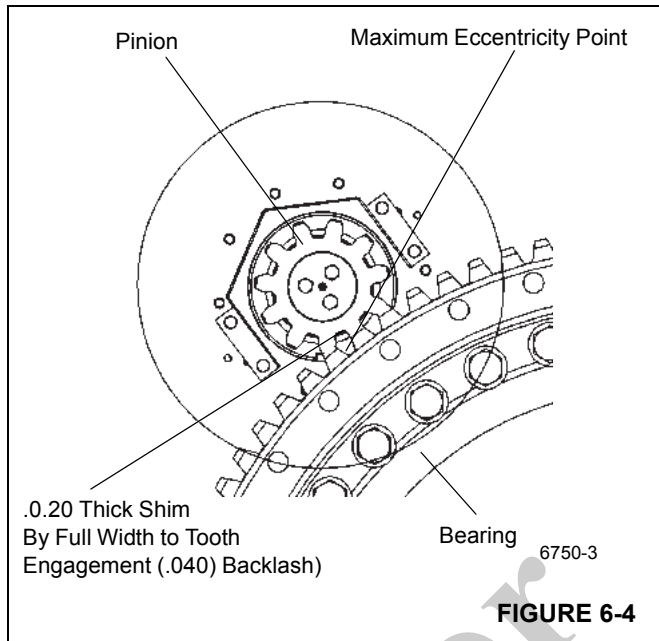

FIGURE 6-4
**NOTE:** If a new bearing is being installed, a new pinion gear must also be used. Align the high point (maximum eccentricity) on the bearing with the new pinion gear high point (Figure 6-4).